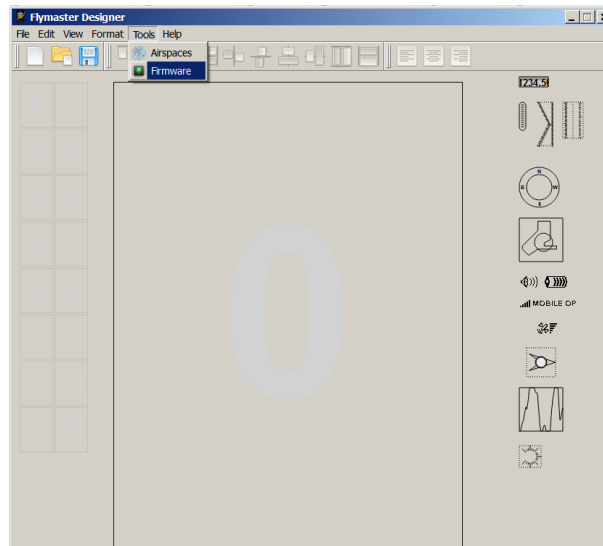

Figure 8.1: Firmware Menu Option
2. Select Tools->Firmware (see Figure 8.1);